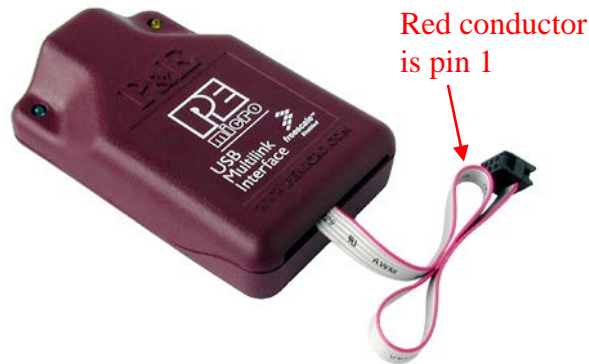

Figure 4. P&E USB BDM Multilink module and cable
Each lab position includes a personal computer, a power supply, and a P&E Microsystems *Background Debug Mode* (BDM) module (pictured in Figure 4) with a USB cable. The "DragonFly12-Plus" (http://www.evbplus.com/Dragonfly12P_9s12/DIP40_9s12.html), pictured in Figures 3(a)-(c), is a 40-pin Dual-In-Line (DIP) module containing a Freescale MC9S12C32 microcontroller, a reset button, a run/load switch, and a 6-pin BDM header, to which the BDM module is to be connected for downloading and debugging programs. The MC9S12C32 microcontroller, from the Freescale HCS12 device family discussed in the ELEC 2220 text book, contains 32K bytes of flash memory, 4K bytes of RAM, and a variety of input/output and other peripheral functions. The pin numbering on the DragonFly12-Plus is shown in Figure 3(b)-(c), and the DragonFly12-Plus schematic diagram is linked to the course web page. Note that a number of input/output port pins on the 48-pin MC9S12C32 chip are not accessible on the 40-pin DragonFly12-Plus module. This will be examined further in Lab 2.
- Connect the BDM cable to the DragonFly module via the 6-pin header. When connecting the BDM module, please pay particular attention to the orientation of the ribbon cable (shown in Figure 4) on the 6-pin BDM header (shown in Figure 3(a)-(b)). ***The red conductor on the BDM ribbon cable MUST be aligned with pin 1 of the BDM header when connecting the BDM module, or damage to the microcontroller and/or BDM module can occur.***